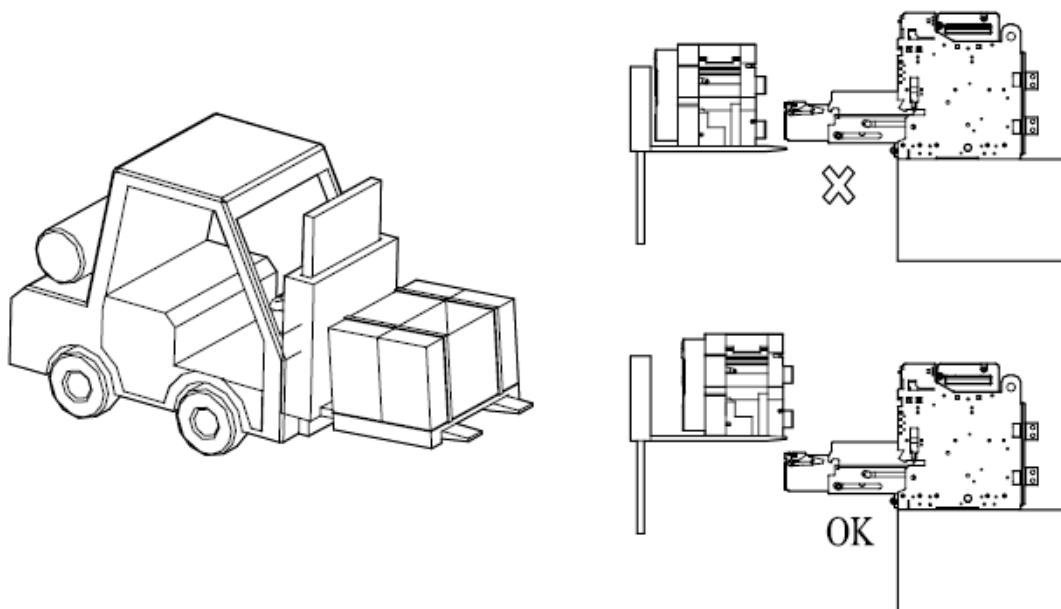

Fig 1. Lifting by forklift
- This breaker and cradle are designed to move easily by overhead lifting devices such as hoisters. You can use lifting hooks which is optional to move them without difficulty. All the carrying devices should be suited to the product's permissible weight which is presented in Table.1. In case of using forklift, refer to figure.1.
-When lifting products with forklift, be careful with the bottom plane not to exceed the rear side of products. (Refer to fig.1)